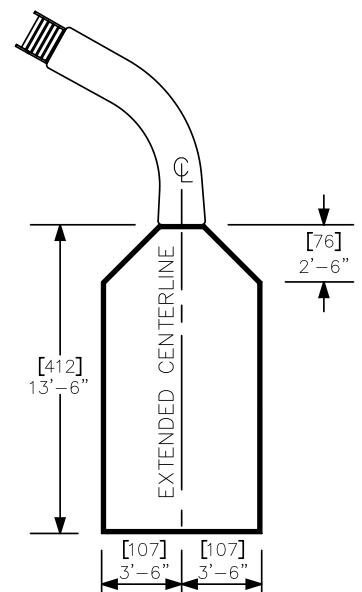

Figure 15
A. The minimum clearance distance on either side of the extended centerline of the slide runway shall not be less than 3'6" (107 cm) at a point no less than 2'6" (76 cm) from the exit lip of the slide and extending a distance of 13'6" (411 cm) in front of the slide as shown in **Figure 15**.